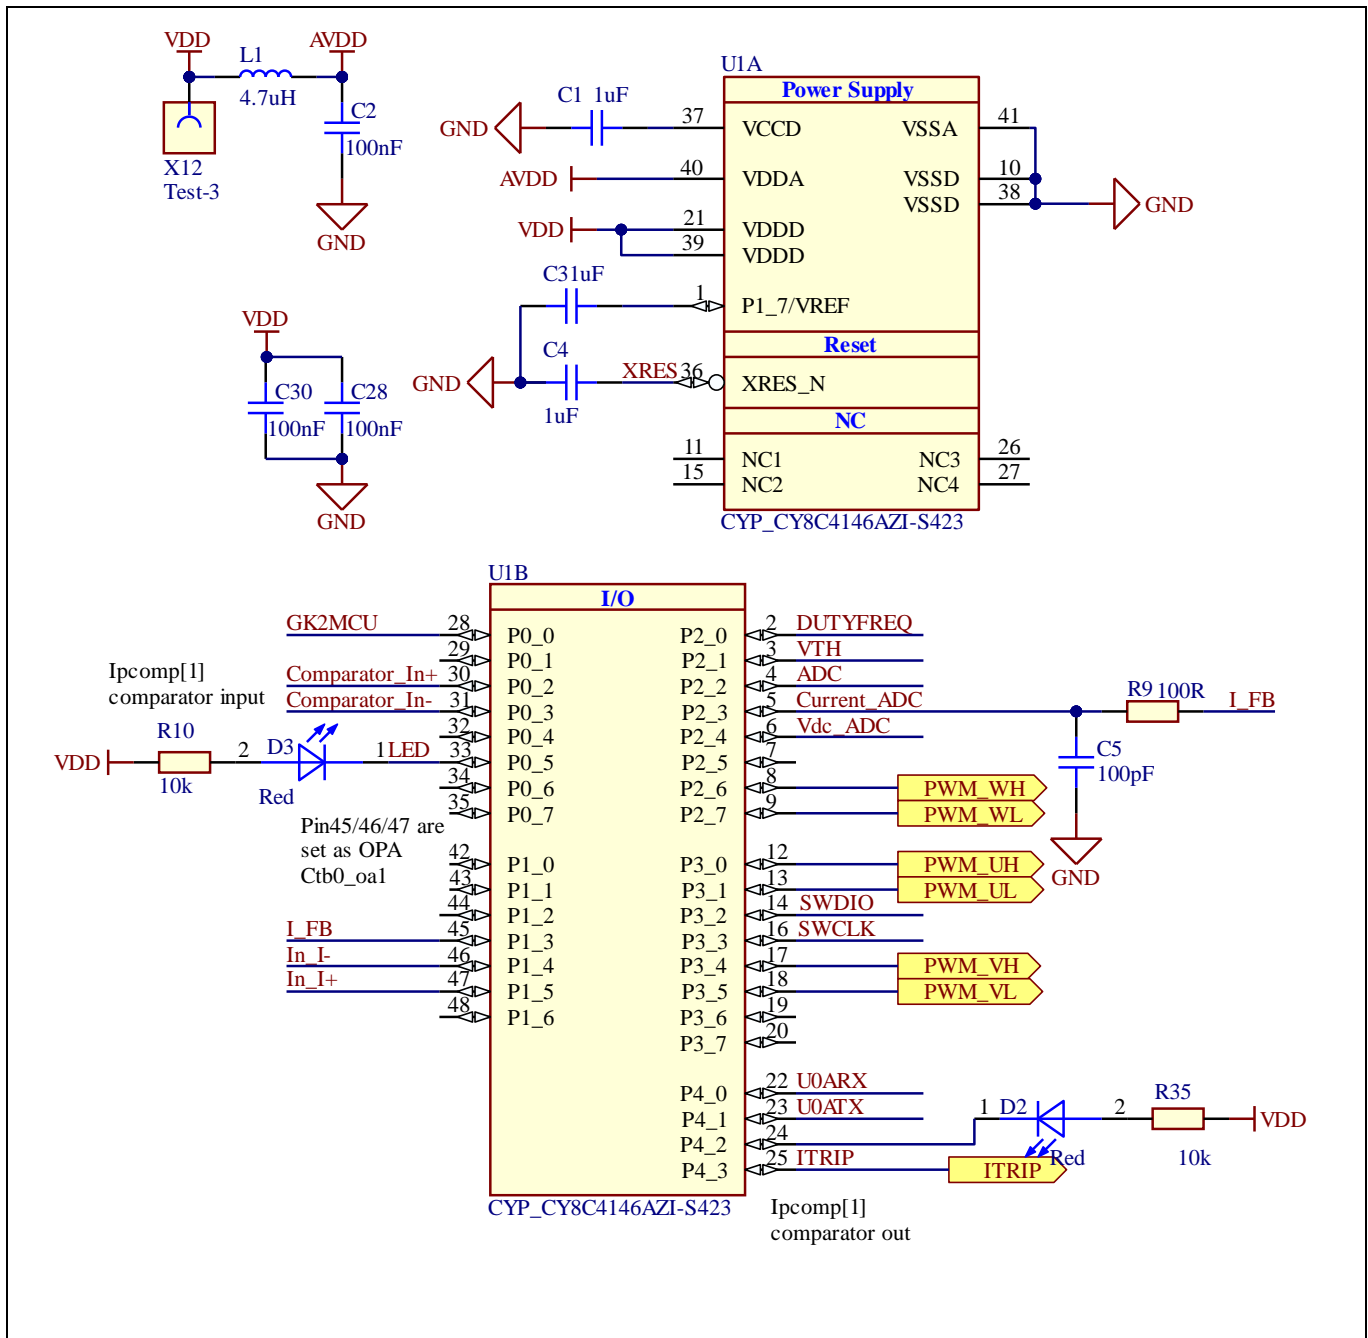

Figure 5 Schematic diagram of PSoC4 MCU
Figure 5 shows the schematic diagram of this chip.
- For the minimum application system, please refer to the schematic diagram in Figure 5.